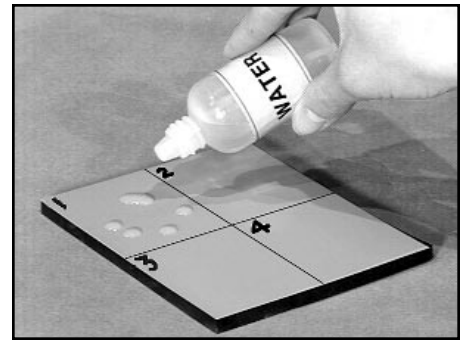

Fig. F9
Clean a sheet of the final polishing film and place it shiny side down onto the clean polishing pad. Section the film into four (4) quarters. Mark the section 1, 2, 3 and 4. Place a few drops of water on section 1 of the film (Fig. F9).